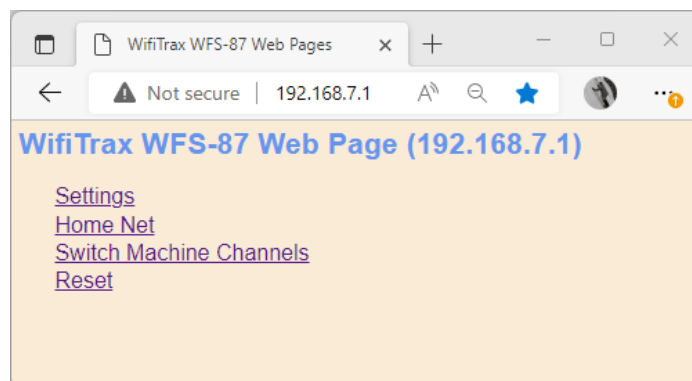

Figure 24 Main Menu of WFS-87 Module shown in a Browser
- (1) The first thing you have to is make the WFS-87 connect to your router. So, using a computer, tablet or phone connect to its access point wftrx\_WFS87\_1\_XXXXXXX\_7. You don't need a password.
- (2) Now open a browser such as Chrome, Edge or Safari and enter 192.168.7.1 into the URL text box and hit enter. This will display the main menu of the WFS-87 module as Figure 24.